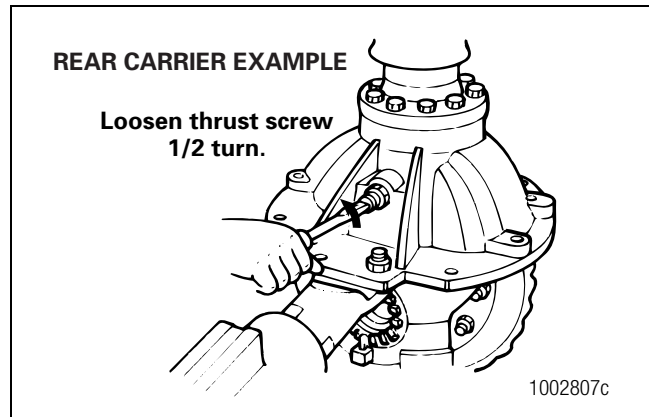

Figure 5.61
4. Loosen the thrust screw one-half turn or 180 degrees. Figure 5.61.